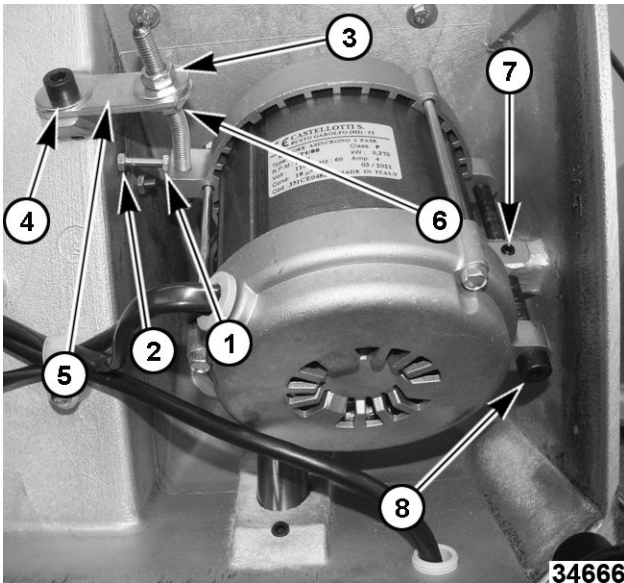

Fig. 22
10. Loosen the jam nut (1, Fig. 22) and thread the stop screw (2) into the motor housing.
11. Remove the nut (3, Fig. 22), screw and washers (4) and tensioner bracket (5).
12. Loosen the jam nut (6, Fig. 22).
13. Loosen the set screw (7, Fig. 22).
14. Remove the pivot pin (8, Fig. 22).
2. Install the pivot pin (8, Fig. 22).
4. Install the tensioning bracket (5, Fig. 22) and screw and washers (4).